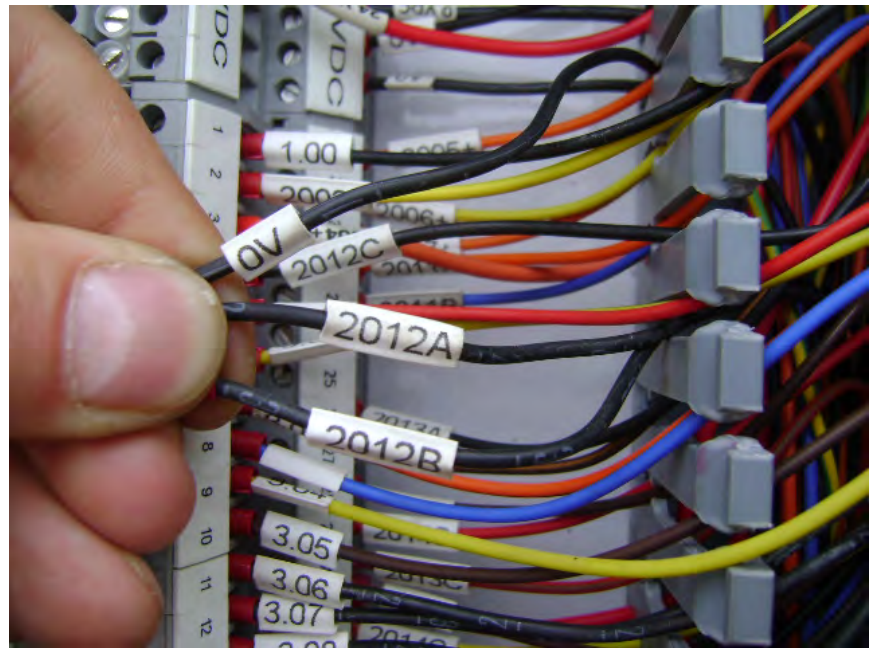

Figure 2
4. Disconnect the coil wires from the terminal block (Figure 2). Disconnect 2012A_3 from TB1-24, 2012C_1 (or 0V) from TB1-4, and 2012B_2 from TB1-25. Note: Wire numbers and terminal block assignments on other revisions of electrical schematic may vary. Some versions may require disconnect of ground (green/yellow) wires.